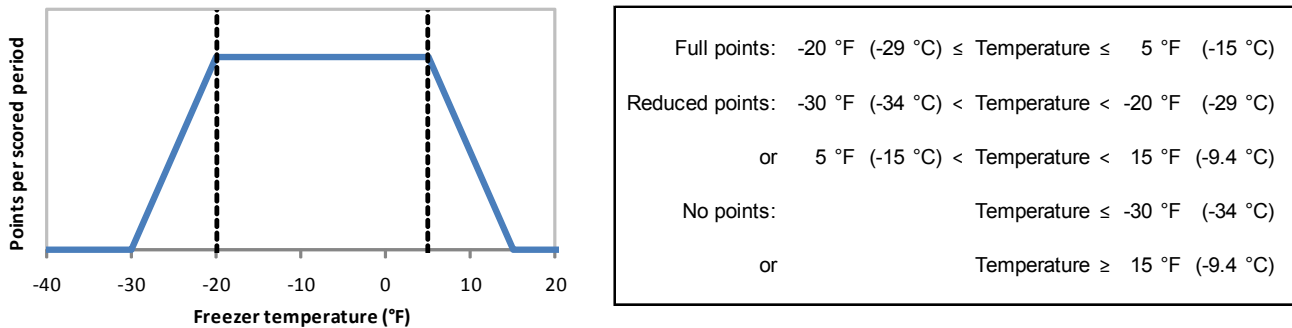

Figure 7: Scoring function for the Freezer Subcontest
- Reduced points are earned if the time-averaged interior freezer temperature is between -30.0°F (-34.4°C) and -20.0°F (-28.9°C) or between 5.0°F (-15.0°C) and 15.0°F (-9.44°C). Reduced points are scaled linearly, as shown in Figure 7.